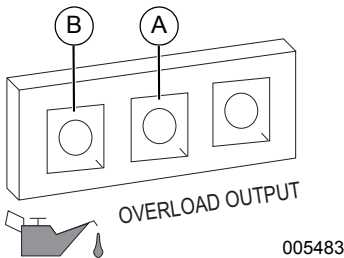

Figure 3-3. Shutdown Fault
IMPORTANT NOTE: Do not overload generator or individual panel receptacles. See Figure 3-3. If an overload occurs, the overload LED (A) will illuminate and AC output ceases. To correct, see Generator Status Lights. Read Know Generator Limits carefully.
The engine is equipped with a low oil level sensor that shuts down the engine automatically when the oil level drops below a specified level to prevent engine damage. See Figure 3-3 (B). The engine will not run until the oil has been filled to the proper level.